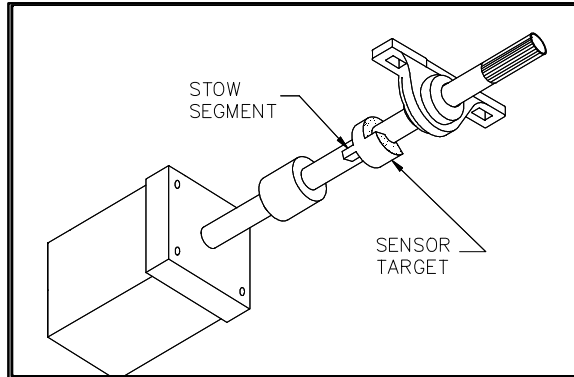

FIGURE 4-2: ORIENTATION OF SENSOR TARGET
- b. Refer to **Figure 4-2** to verify that target is correctly installed on driveshaft; the small stow segment faces the actuator. The target must be laterally positioned on driveshaft so that it is aligned with sensors; each target segment is directly in front of a sensor.